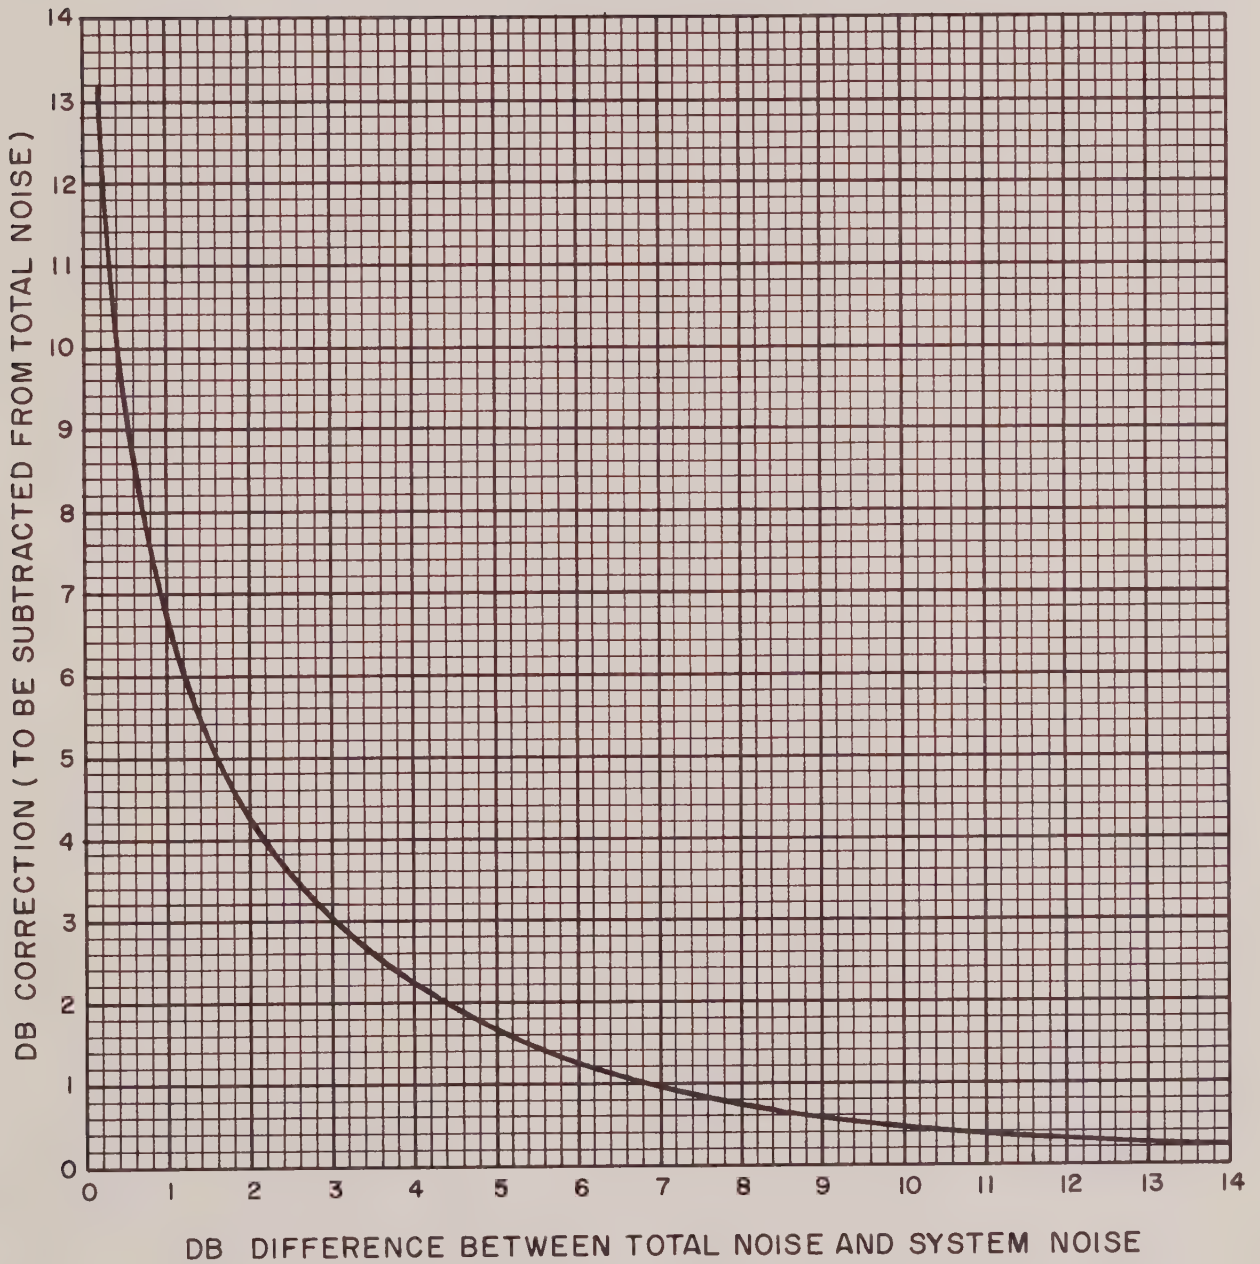

FIGURE 1-2. CORRECTION CHART FOR PRESENCE OF SYSTEM NOISE
7. Insert the Zener Diode in the jig and close the cover. The DC Voltmeter will read the Zener voltage, and the Noise meter the Zener noise. If there is less than 10 db difference from the value noted in Step 3, use the Correction Chart for Presence of System Noise, Figure 1-2, as with resistors.
Note the noise reading. If there is less than 10 db difference from the value noted in Step 3, use the Correction Chart for Presence of System Noise, Figure 1-2, as with resistors.